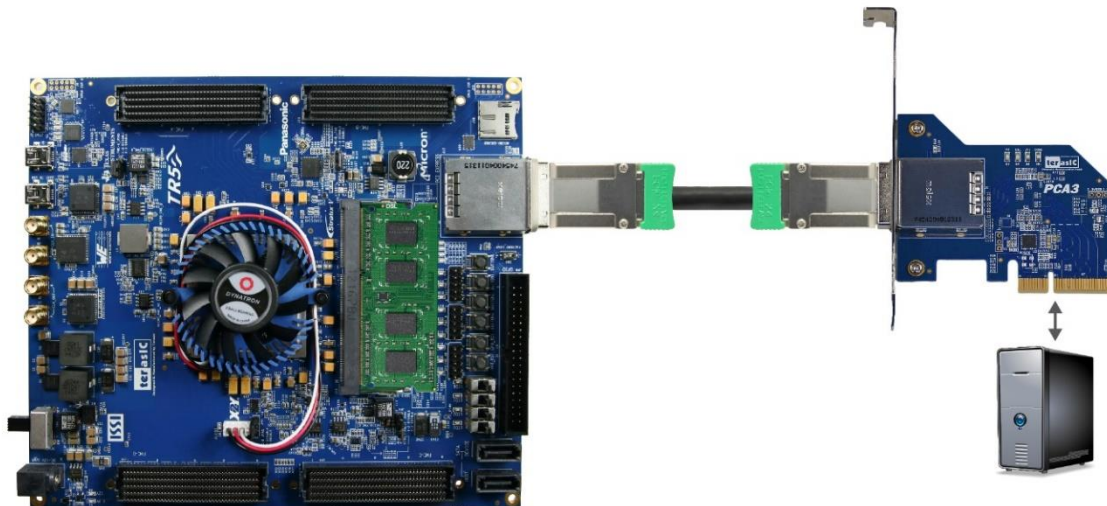

Figure 4-9 FPGA board connect to PC
1. Use the PCIe cable to connect to the TR5 PCIe connector and PCIe adapter card as shown in **Figure 4-9**.